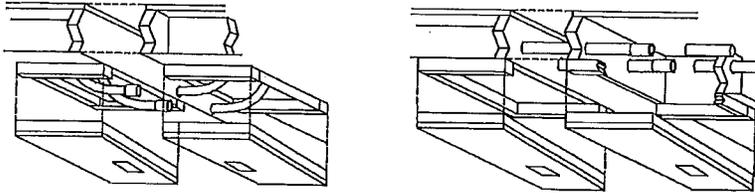

Figure 62. Water line crossover with access panels
3. **Pull lines.** Pull water lines through holes in rim joist. If holes are not provided, drill round holes in the center of the rim joist, with a maximum diameter of one third the rim joist depth (Figure 62).